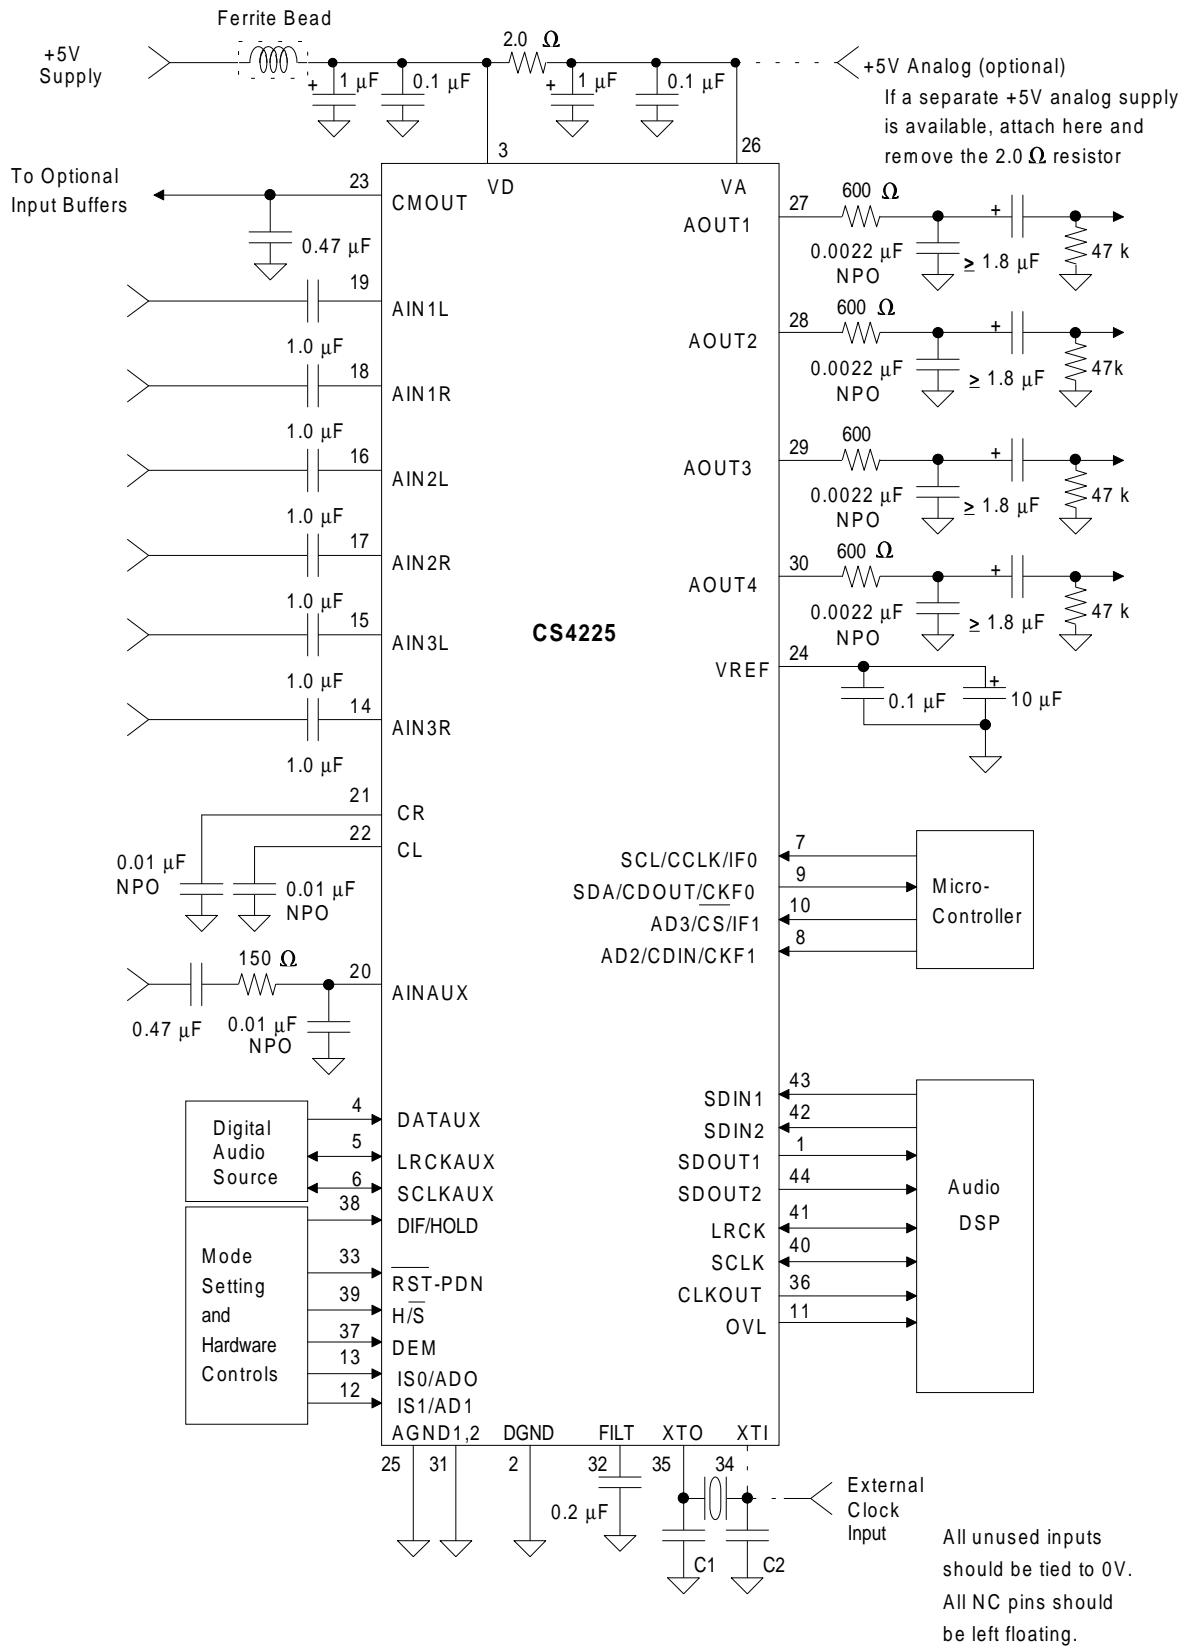
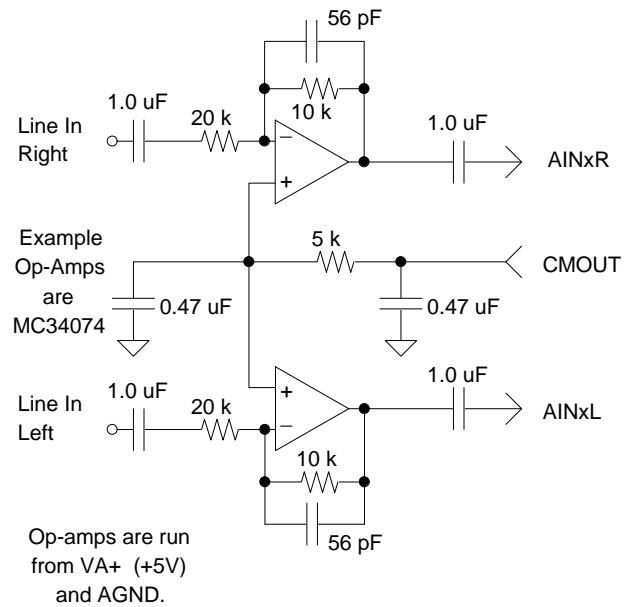

Figure 1 - Recommended Connection Diagram
Figure 2 - Optional Line Input Buffer
Digital audio data for the DACs and from the ADCs is communicated over a serial port. Separate pins for input and output data are provided, allowing concurrent writing to and reading from the device. Control for the functions available on the CS4225 are communicated over a serial microcontroller style interface, or may be set via dedicated mode pins. Figure 1 shows the recommended connection diagram for the CS4225.
AIN1R, AIN1L, AIN2R, AIN2L, AIN3R, AIN3L and AINAUX are the line level input pins (See Figure 1). These pins are internally biased to the CMOUT voltage (nominally 2.1V). A 1µF DC blocking capacitor allows signals centered around 0V to be input. Figure 2 shows an optional dual op amp buffer which combines level shifting with a gain of 0.5 to attenuate the standard line level of 2V_{rms} to 1V_{rms}. The CMOUT reference level is used to bias the op amps to approximately one half the supply voltage.
The analog signal is input to the 12-bit ADC via the AINAUX pin. An antialiasing filter of 150Ω with 0.01µF to ground is required (See Figure 1) along with a series DC blocking capacitor. The AINAUX signal is normally routed to the 12-bit ADC. This signal may also be routed to the Left 16-bit ADC (replacing the selected left input), under control of the AIM bit in the 12-bit ADC Mode Byte. In this mode, the input antialiasing filters and gain adjustment operates on the AINAUX signal.
AOUT1, AOUT2, AOUT3 and AOUT4 output a $1V_{rms}$ level for full scale, centered around +2.1V. Figure 1 shows the recommended $1.0\mu F$ dc blocking capacitor with a $40k\Omega$ resistor to ground. When driving impedances greater than $10k\Omega$, this provides a high pass corner of 20Hz. These outputs may be muted.
The CS4225 requires a high frequency (256 F_s) clock to run the internal logic. The Clock Source bits, CS0/1/2, in the Clock Mode Byte determine the source of the clock. A high frequency crystal can be attached to XTI and XTO, or a high frequency clock can be input into XTI. In both these cases, the internal PLL is disabled, with the VCO shut off. The externally supplied high frequency clock can be 256 F_s , 384 F_s or 512 F_s . The CI0/1 bits in the Clock Mode Byte must be set accordingly. When using the on-chip crystal oscillator, external loading capacitors are required (see Figure 1). High frequency crystals (> 8 MHz) should be parallel resonant, fundamental mode and designed for 20pF loading (equivalent to 40pF to ground on each leg). An example crystal supplier is CAL crystal (714) 991-1580.